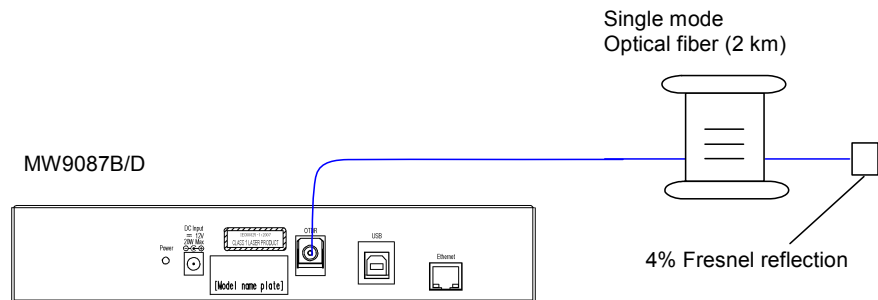

Figure 5.1.5-1 Accuracy Measurement for Distance Measurement
1. Connect the measurement equipment to the mainframe as shown in Figure 5.1.5-1.